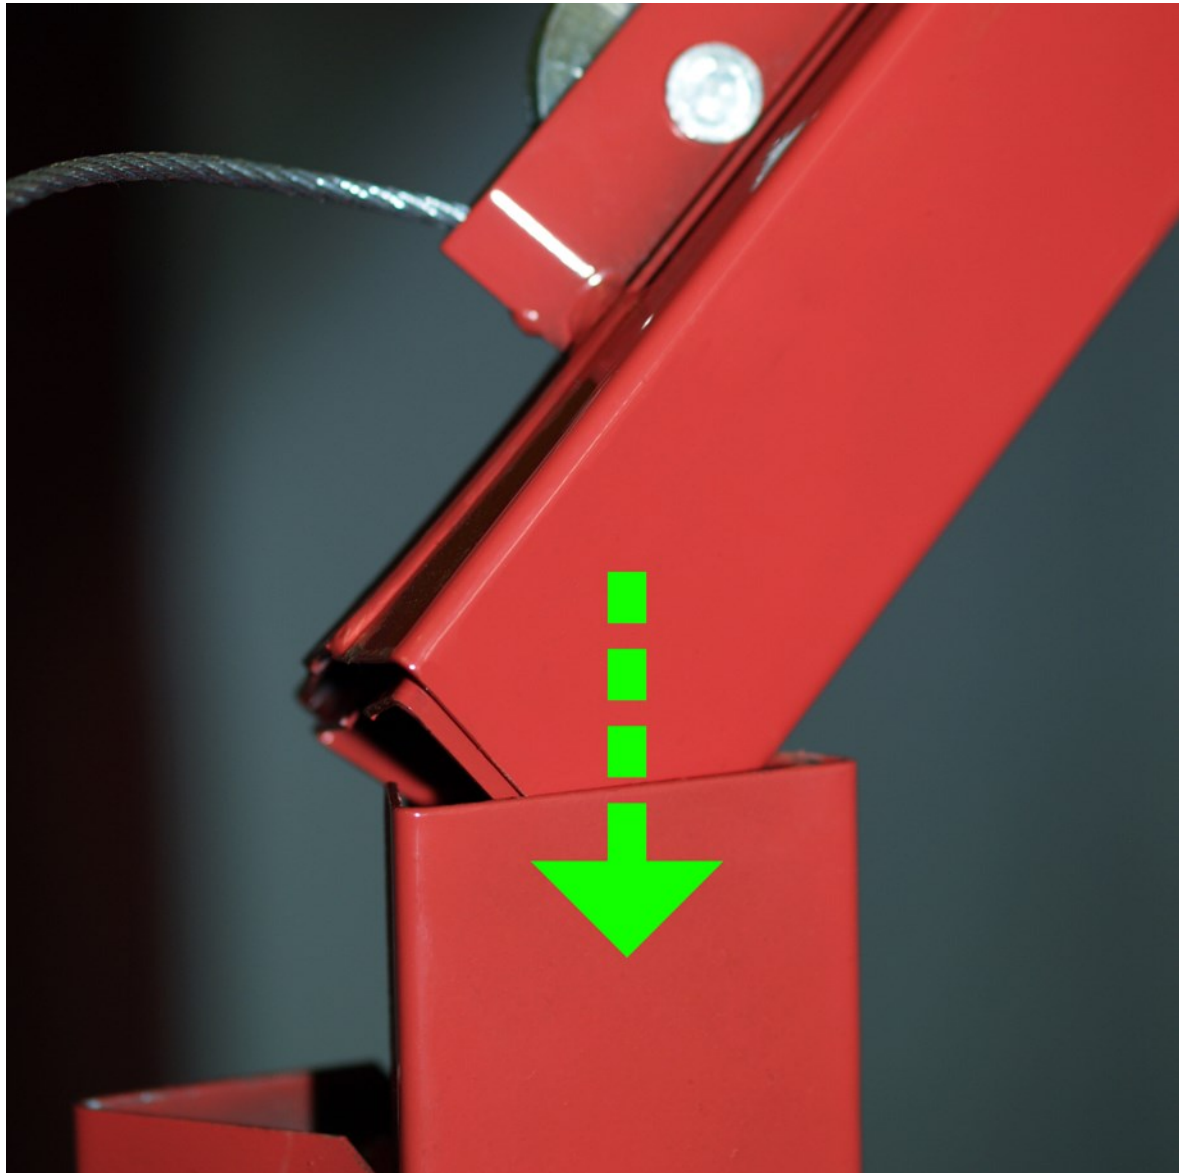

Figure 4
6. Insert the extension bar (Fig. 4).